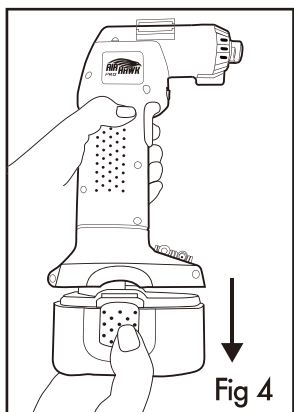

Fig 4
2. If battery is installed, remove from Air Hawk™ Pro by pressing locking tabs in and pulling out (See Fig 4).